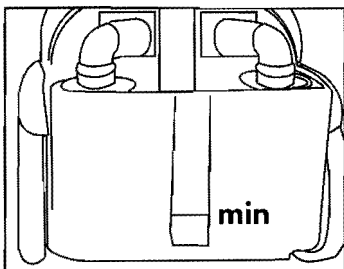

Fig. 4
- Remove the waste water container cover (1), fill the tank (18) with 1 litre of tap water and lock the cover back into locked position. This operation will ensure that the air is filtered and any impurities (dust, mites, etc.) are trapped. For proper use, do not exceed the "min" water level shown on the tank. Fig 4.
- Introduce the plug of the power cable (15) into the electrical socket.